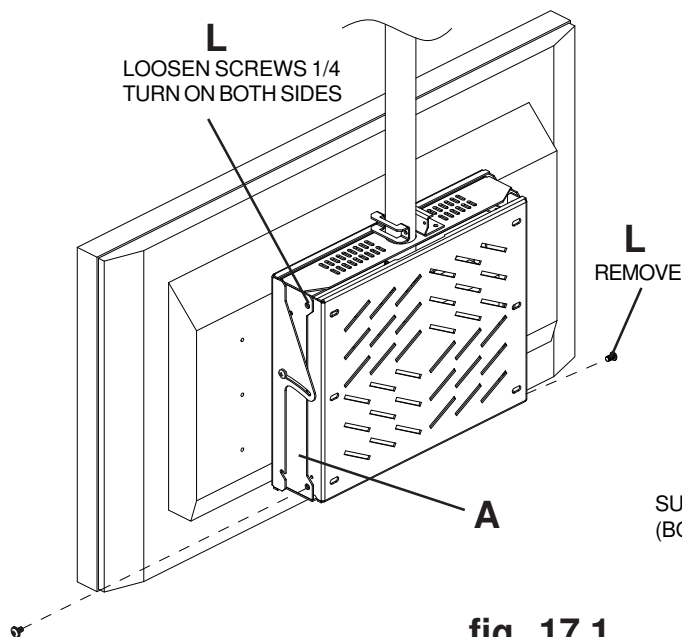
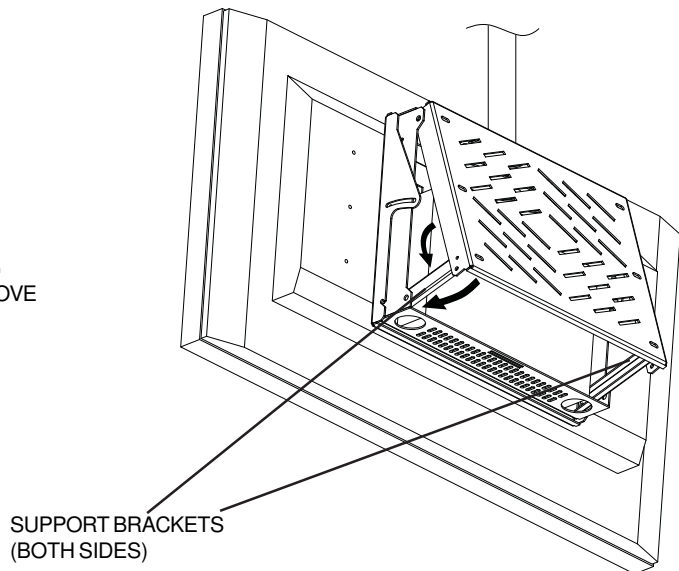

fig. 17.1
fig. 17.2
- 17** Loosen top two M8 x 15 mm socket pin screws (**L**) 1/4 turn and temporarily remove bottom two M8 x 15 mm socket pin screws (**L**) on main support box (**A**) as shown in figure 17.1. Swing screen forward and swing support brackets downward to brace screen in open position as shown in figure 17.2.